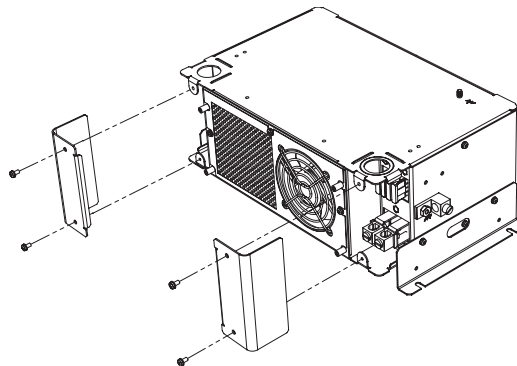

Figure 8 AC and DC Wiring Compartment Removal
3. Remove the AC and DC wiring compartment panels by unscrewing the two screws in each of the panels (see Figure 8).